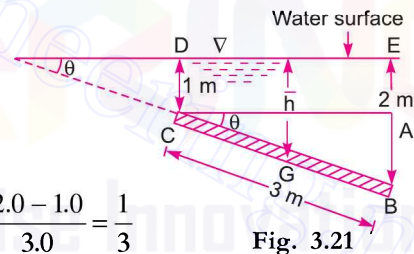

Fig. 3.21
**Problem 3.16** A circular plate 3 metre diameter is submerged in water as shown in Fig. 3.21. Its greatest and least depths are below the surfaces being 2 metre and 1 metre respectively. Find : (i) the total pressure on front face of the plate, and (ii) the position of centre of pressure.